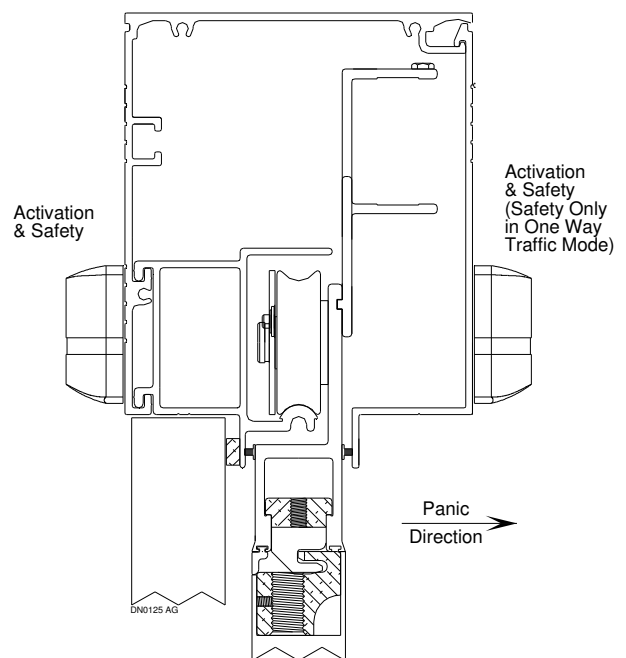

Figure 24
3. Use screws provided inside sensor (in screw holes) to mount sensor to header (See Figure 24).